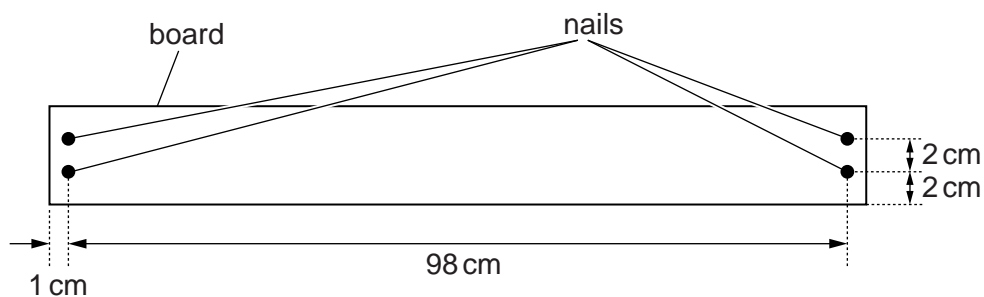

Fig. 1.1
- 1 The nails should be hammered into the board in the positions shown in Fig. 1.1.